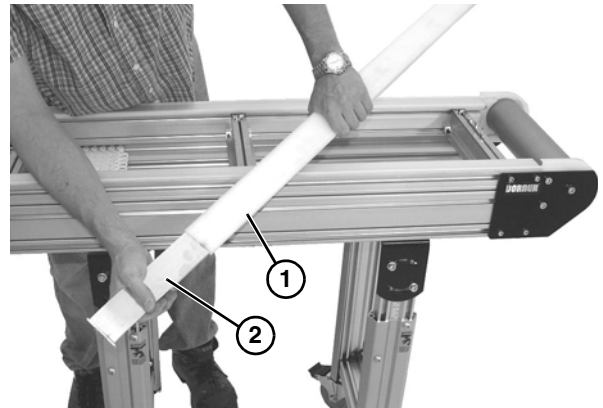

Figure 37
5. Remove the center wear strip (**Figure 37, item 1**) from the center frame channel (**Figure 37, item 2**).